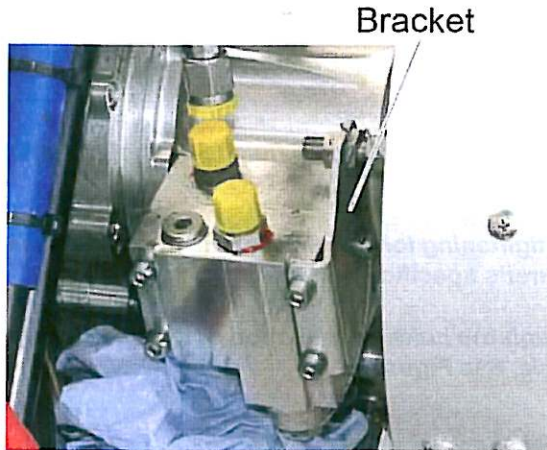

Figure 3
2. *Remove and lay aside the bracket with the de-icing nozzle. Discard the screws and washers. See Figure 3.*